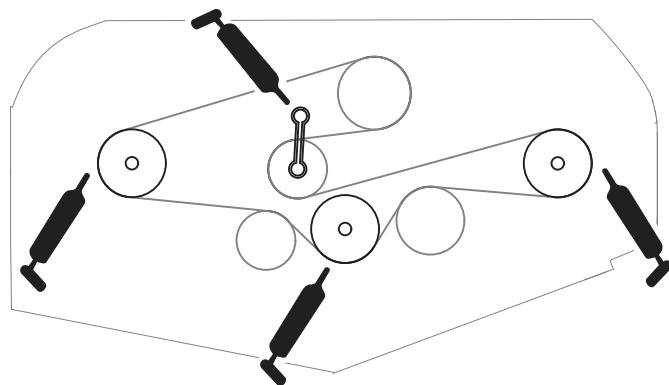

Figure 16
- Idler arm shaft bearings (Figure 16)
- Spindle shaft bearings (3—located under the pulley) (Figure 16)